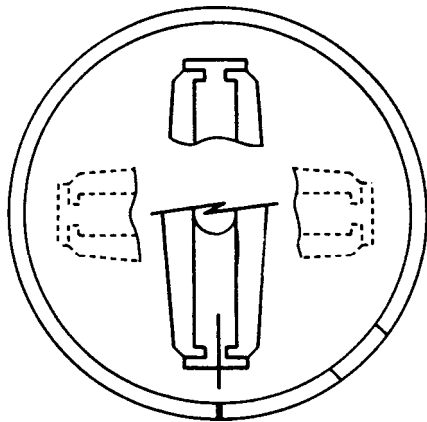
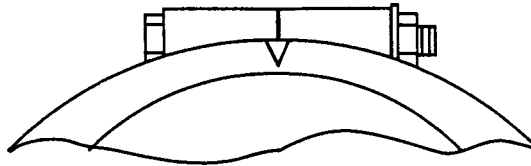

FIG. 1
FIG. 2
- Double check distributor orientation. (FIG. 1 and FIG. 2)
Rotor must be orientated in one of the two positions indicated by the solid lines when timing mark is aligned as in FIG. 2.
Alignment of timing mark to crankcase to verify correct distributor orientation as shown in FIG. 1.